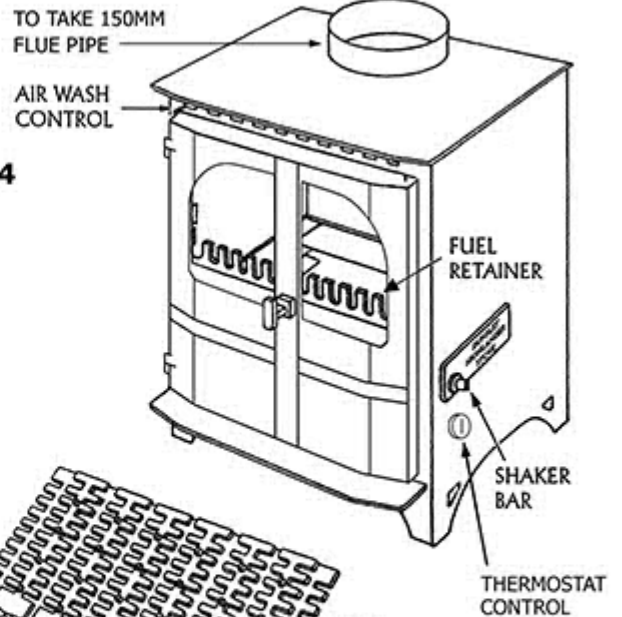

FIG.4
The Highlander Stove is fitted with a multi-fuel riddling grate which enables both solid fuels and wood to be burnt, see FIG. 3. Page 4. De-ash the firebed, grate bars open, fully open the primary air inlet, bottom control. Half open the top air wash control, see FIG. 4. Page 6. Place two or three fire lighters, or paper on the grate with plenty of small sticks of dry wood on top. Ensure you have a good fire base, fuel with more wood if required, especially if the fuel you are to use is a hard coke or oval, lightly cover with the fuel you wish to use, light the fire lighters or paper, close and latch the stove door. When the fuel is burning well fully fuel the fire, adjust the air controls as required. **Do not over fire.** Set the grate to the position to suit the fuel you are to burn, see FIG. 3. Page 4.
- A. See FIG. 4, 6+9. Note the fuel retainer brackets, one each side of the door opening.
- B. See FIG. 4. and 9. fuel retainer bar, take hold with the castle projections uppermost and the sloping skirt facing inwards to the firebox to protect the riddling movement. Slide the retainer bar into the holding brackets.